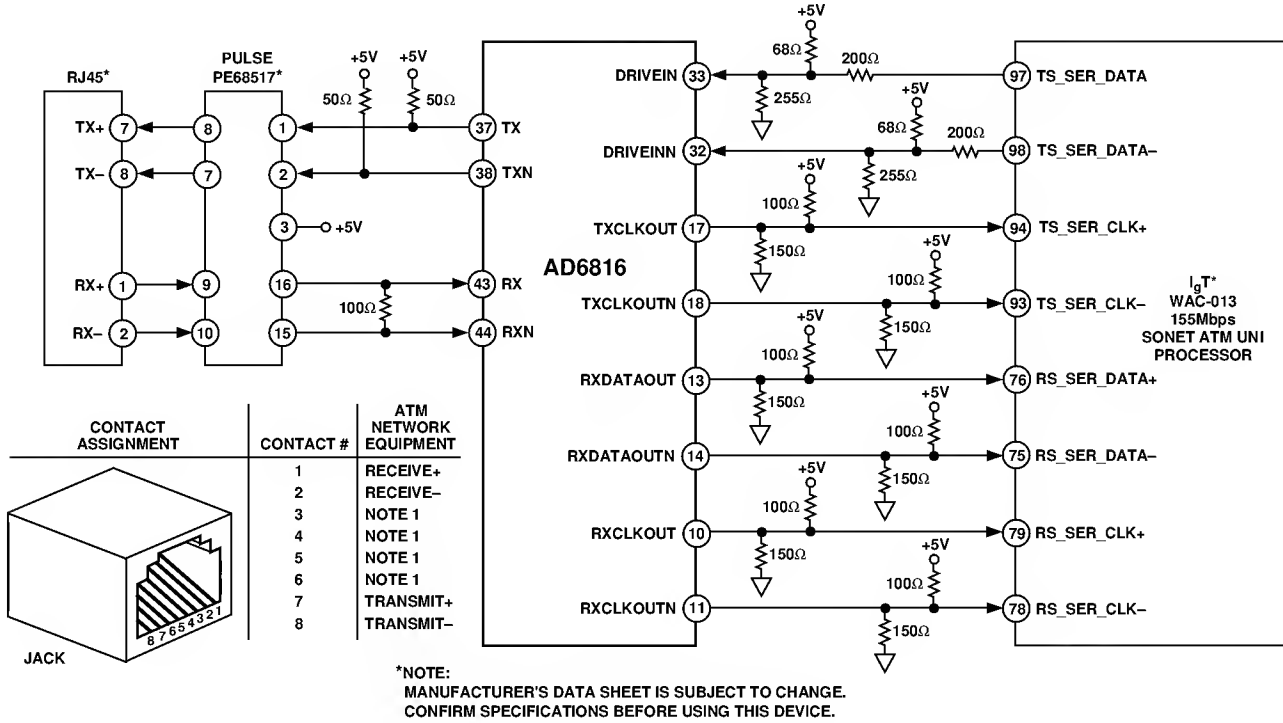

Figure 28. UTP#5 Application with IgT WAC-013
2. THIS SCHEMATIC HAS INCORRECT MNEMONICS AT A D6816 PINS 37 AND 38, AND AT PINS 32 AND 33. SEE PIN CONFIGURATION, PIN DESCRIPTION AND FIGURES 28 AND 29 CORRECT DESCRIPTION.
Figure 28 shows a more detailed block diagram of the single channel application. The AD6816 provides the WAC-013 with a 155 MHz Tx clock at PECL levels. The WAC-013 processes 155 Mbps Tx data directly from this 155 MHz clock. The WAC-013 generates 155 Mbps differential NRZ data at CMOS levels. These differential data output signals data are PECL-level translated using the 3-resistor network (refer to Figure 25). The AD6816 processes the NRZ data through its line driver. The line driver output data is processed through an external low-pass filter and transformer before entering the RJ45 connector.